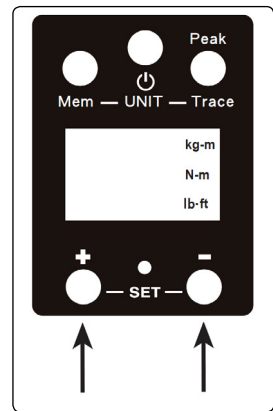

fig.4
- 4.4.1. To increase the value, press and hold the (+) button (fig.4), the target value will display for 10 seconds then the LCD will display 0.0.
- 4.4.2. To decrease the value, press and hold the (-) button (fig.4), the target value will display for 10 seconds then the LCD will display 0.0. **NOTE:** In use, when the torque is approaching within 20% of the target value, the red LED will flash and an intermittent buzzer warning will be heard, indicating that the target torque value is nearing. When the target torque value is reached, the red LED will illuminate and the buzzer will sound. Immediately stop applying pressure to the fixing.